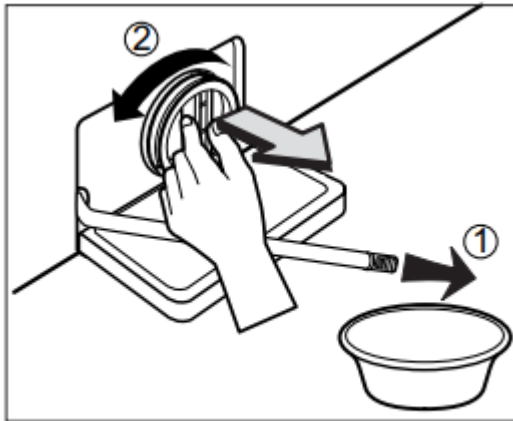

Fig.14
- Carefully unscrew the coin-trap cover. **Warning:** Some residual water will flow out. (Approx. 1 Cup)(Fig.14)